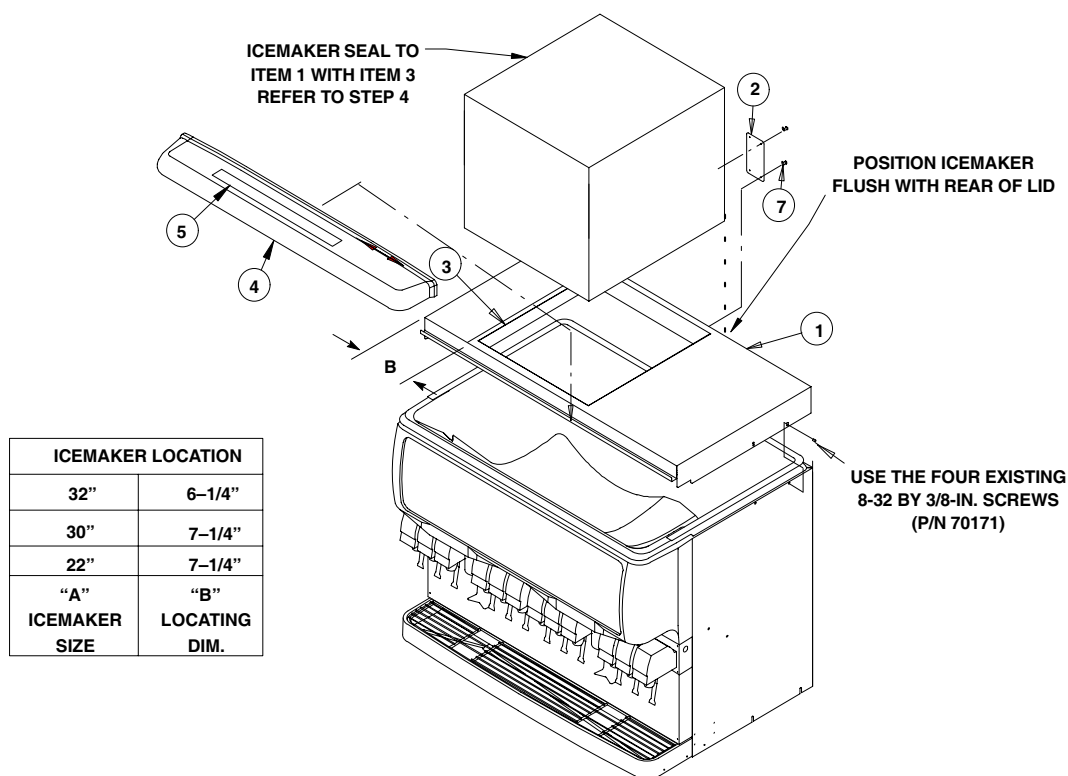

FIGURE 1. ED/DF300 Kit
4. Seal the icemaker to the top of the dispenser after determining the correct location for the ice maker (see Figure 1).
6. Install the wire form bracket, supplied with the bin stat kit (item 4), through the 5/8" diameter hole in the bottom of the ice maker. Wrap the eye of the wireform over the stud near the hole to the end of
7. 7. Locate the cleaning caution label (item 5) on the manual ice fill cover (item 4) as shown in Figure 1. Place the manual fill cover in position over the flange on the lid assembly and the front access hopper opening.